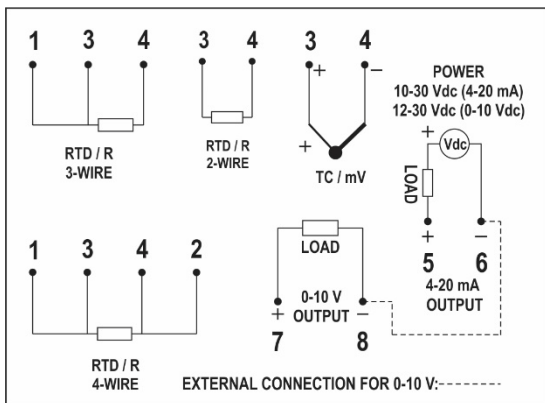

Figure 11 – Electrical connections
**Figure 11** shows the electrical connections required. The TxRail-USB wiring for thermocouple, RTD, resistance, and voltage are done according figure below: